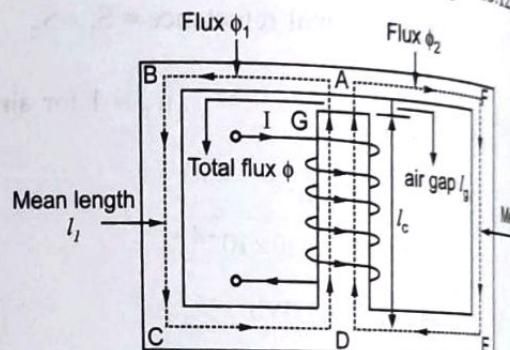

Fig. 1.13.12 Parallel circuit with air gap
- Consider a parallel magnetic circuit with air gap in the central limb as shown in the Fig. 1.13.12